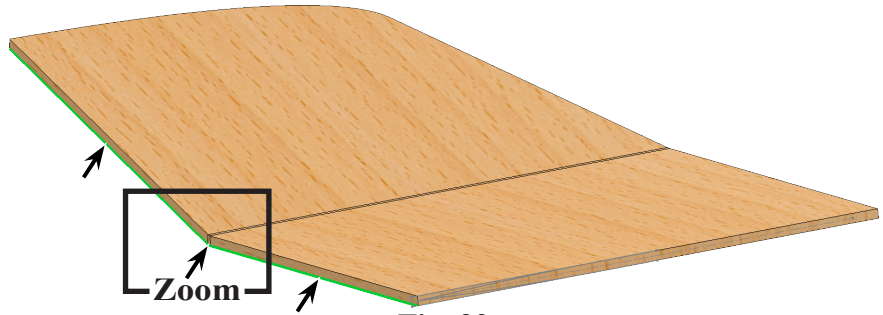
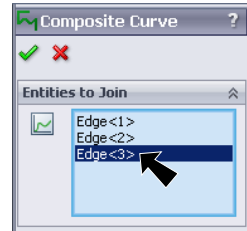
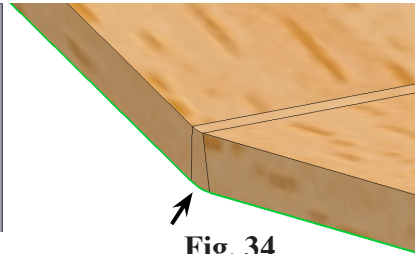

Fig. 32
Fig. 33
Fig. 34
Step 1. Rotate view to view **along trailing edge** as shown in **Fig. 32**. Hold down middle mouse button (wheel) and drag.
Step 3. In the Property Manager set: for Entities to Join, **Fig. 33** click **edges along trailing edge**, **Fig. 32**. If necessary, zoom in to select the bend edge, **Fig. 34**